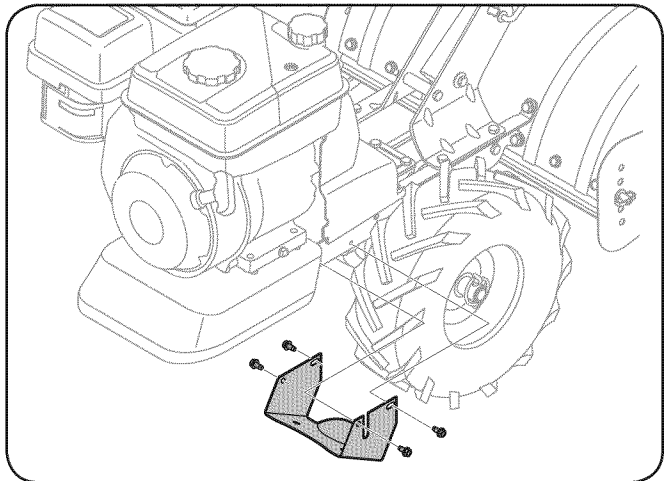

Figure 8-2
3. Remove the four 1/4-20 self-tapping hex screws that secure the pulley shield to the frame as seen in Fig. 8-2, and remove the pulley shield and set aside in a safe location until reinstallation.